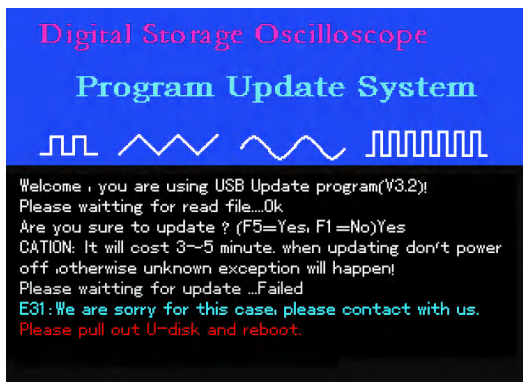

Figure 5-16
11. If an unknown error occurs when the user is updating the program, the prompt in Figure 5-16 will appear : "E31: We are sorry for this case, please contact with us. Please pull out U-disk and reboot."